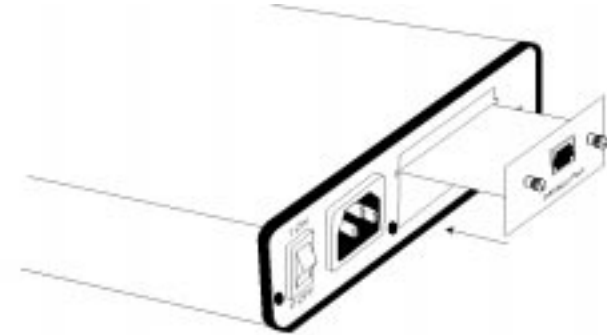

Figure 3. Installing the Model IM 1/J Plug-in Serial Interface Module
- 3) While keeping the module's faceplate parallel with the base unit rear panel, slide the module straight in—so that the card edge contacts line up with the socket inside the chassis. Figure 3 (below) shows how a *QuikConnect™* Module plugs into the rear of the base unit.